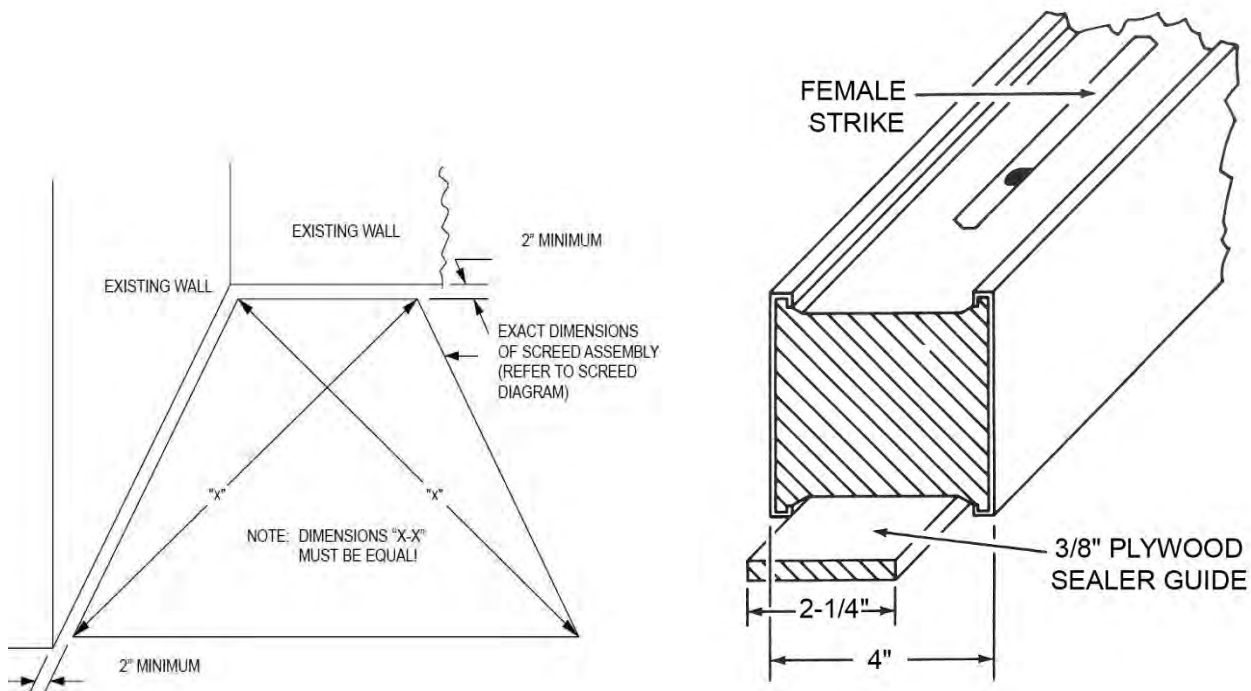
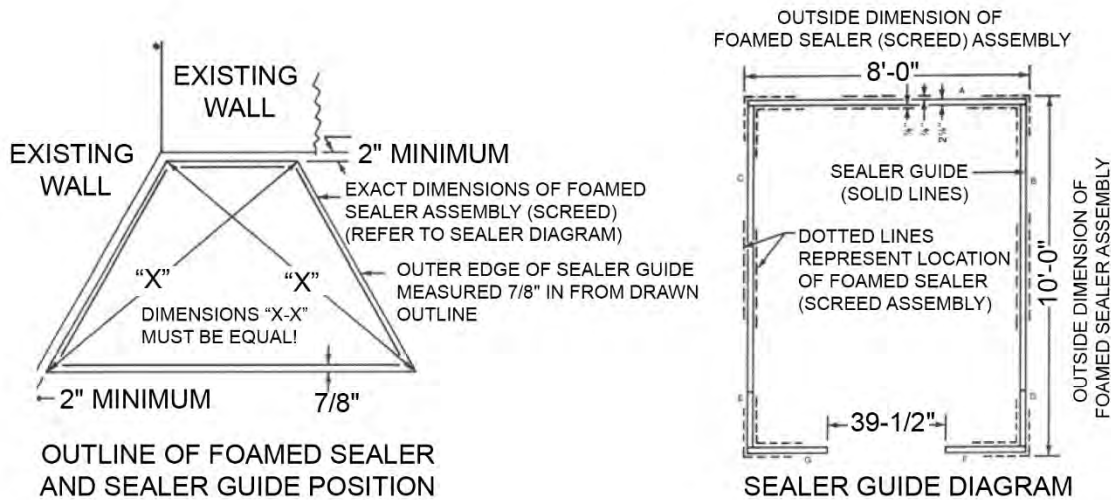
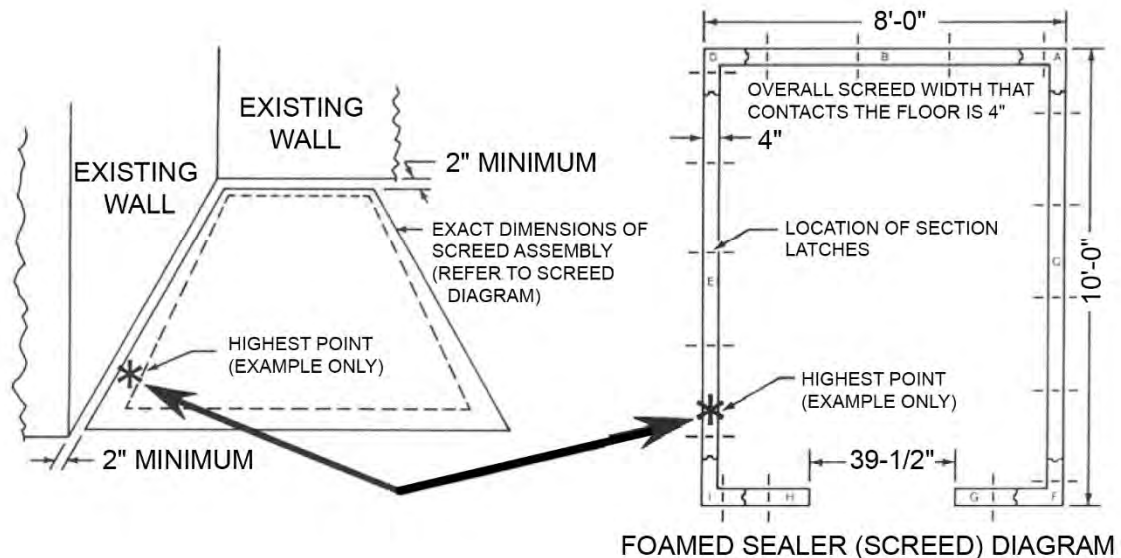

Figure 1
Figure 2
Figure 3
Locate the floor sealer (screed) diagram that was packed in the hardware box and, using it as a guide, draw a properly dimensioned outline of the sealer (screed) assembly directly onto the building floor precisely where the walk-in will be situated. These lines will be the same dimensions as the dimensions of the walk-in in both directions. If the walk-in is to be installed next to an existing building wall(s), make sure that a **MINIMUM OF 2" REMAINS BETWEEN THE DRAWN OUTLINE AND THE BUILDING WALL(S)**. This space will allow for irregularities in the building wall(s) and will permit a free flow of air between the two surfaces. **CAREFULLY CHECK FOR SQUARENESS** by confirming that the dimensions between opposite corners are equal (Figure 1).
Since the foamed sealer (screed) is retained in position by a 3/8" thick plywood sealer guide, which will be secured to the building floor, it is imperative that the sealer guide be accurately located, as well, on the building floor. Refer to the sealer guide diagram which was also packed in the hardware box. On the diagram, you will notice that the sealer guide is located 7/8" **INSIDE** the drawn outline which represents the outside dimensions of the sealer (screed) assembly. Further, Fig. 1 illustrates that the sealer guide is 2 1/4" wide centered beneath a 4" wide sealer leaving a border of 7/8" along each edge. Draw another outline of the outside dimensions of the sealer guide directly onto the floor. There should be exactly 7/8" between the new sealer guide outline and the previously drawn sealer (screed) outline (Figure 2, on next page).
After the outline of the sealer (screed) and the sealer guide is completed, as shown in Figure 2, locate the highest point within the outline on the floor where the screed (sealer) will be installed. (Sealer sections are 4" wide). A transit or surveyor's level is an ideal instrument for this purpose. Mark the highest point on the floor as illustrated on Figure 3.
Locate the SEALER GUIDES. They are bundled together and packed along with the walk-in corner or wall panels and are labeled accordingly. Sealer guides are strips of 3/8" plywood 2-1/4" wide and 8' long as shown in Figure 1, p. 18.
Each sealer guide, when positioned properly, will have its outer edge precisely over the INSIDE OUTLINE drawn on the building floor, Figure 2, p. 19, and its outer edge will be exactly 7/8" from the outline which represents the foamed sealer outer edge. The quality of workmanship performed in locating and securing the sealer guides will be transmitted directly to the location of the foamed sealers (screeds) and, subsequently, to the overall construction of the complete walk-in. BE EXACT! Refer to Figure 1 and Figure 2, pp. 18-19.
Refer to the FOAMED SEALER DIAGRAM. Identify and locate the sealer section that will be positioned directly over the highest point which was determined earlier and marked on the building floor (Figure 3, p. 19).
**NOTE:** All foamed sealers are male formed on one end and female formed on the opposite end. The configuration of the ends is clearly indicated on the diagram. Also, make certain that the strike housing portion of the section latches is visible on the upper edge of the sealer when it is in position (see Figure 1 and Figure 2, pp. 18-19).